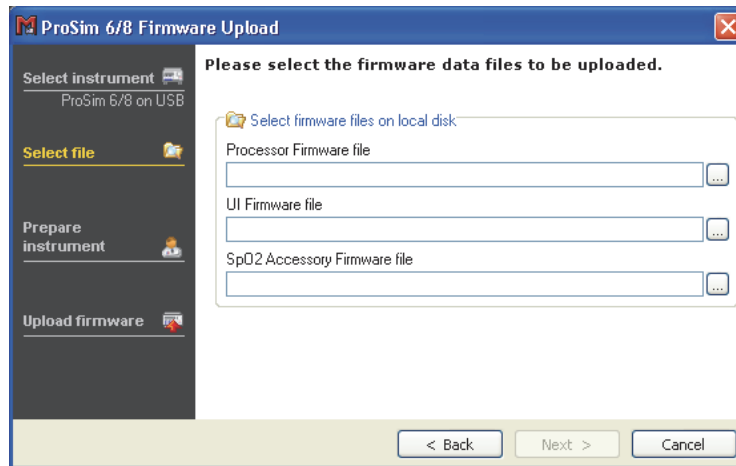

Figure 5-28. Firmware Upload Window
2. Click the **Update Firmware** tab to show the window in Figure 5-28.